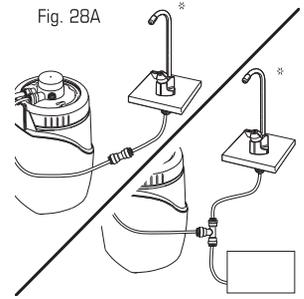

Fig. 28A
9. The other end of the BLUE tube marked at 3/4" (18mm) connects to the NON-eSpring Faucet or dispensing device by inserting BLUE tube into the Tubing Reducer Connector. Follow manufacturer's installation instructions to connect the other end of the connector to the faucet or dispensing device (Fig. 28A).